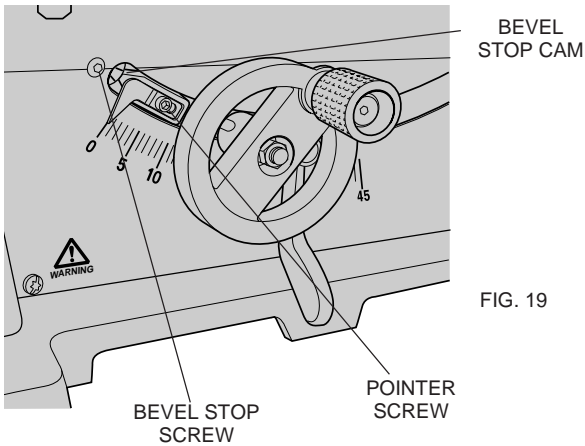

FIG. 19
2. Unlock the bevel lock lever (Figure 3) by pushing it up and to the right. Loosen the bevel stop screw (Figure 19).
7. Check the bevel angle scale. If the pointer does not read 0°, loosen pointer screw (see Figure 19) and move the pointer so it reads correctly. Retighten the pointer screw.